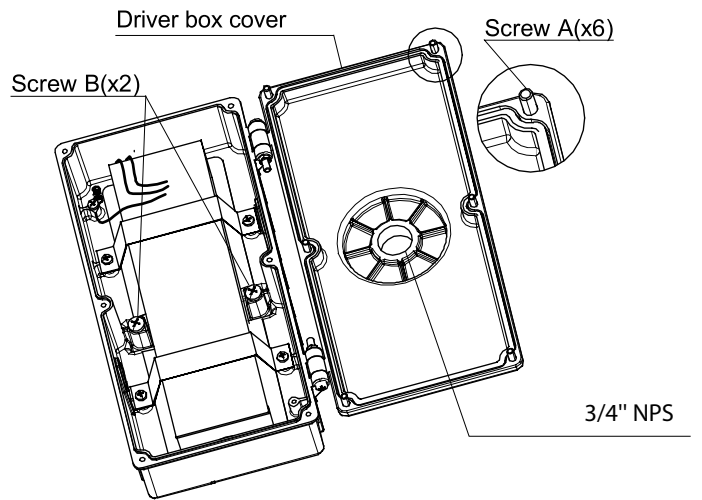

Figure 4
2. Remove Screws A (6) on the driver box and open the Driver Box Cover. See Figure 4